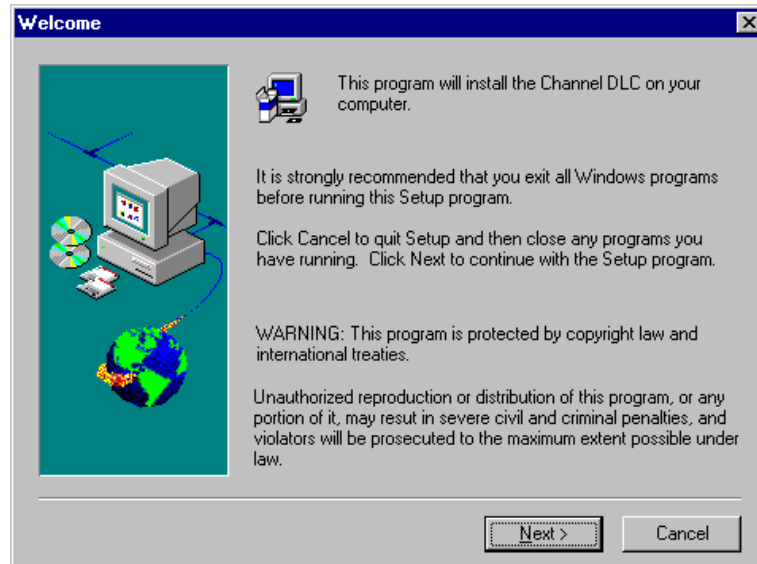

Figure 7-2. Welcome Screen
2. After Setup prepares, the Welcome screen (Figure 7-2) will be displayed. Click on **Next** to proceed with the installation.